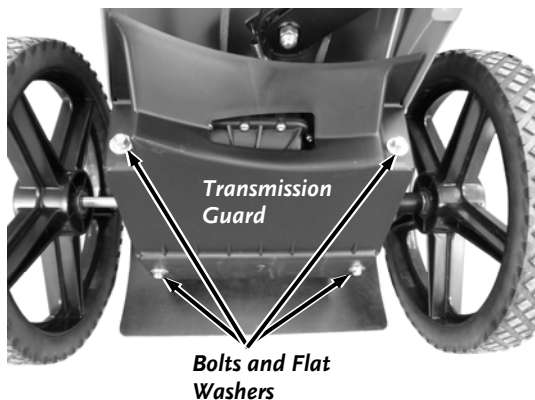

Figure 32
4. Remove the four Transmission Cover Bolts and Flat Washers with a 3/8" Wrench. Remove the Transmission Cover (**Figure 32**).
20. Install the Transmission Cover and secure with the four Bolts and Flat Washers using a 3/8" Wrench (**Figure 32**).